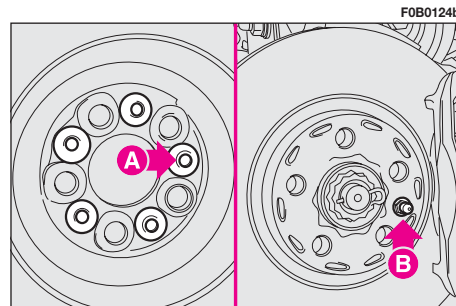

fig. 9
20) Fit the spare wheel making one of the holes **A**-fig. 9 coincide with pin **B**. Now tighten the five wheel bolts with the handle.